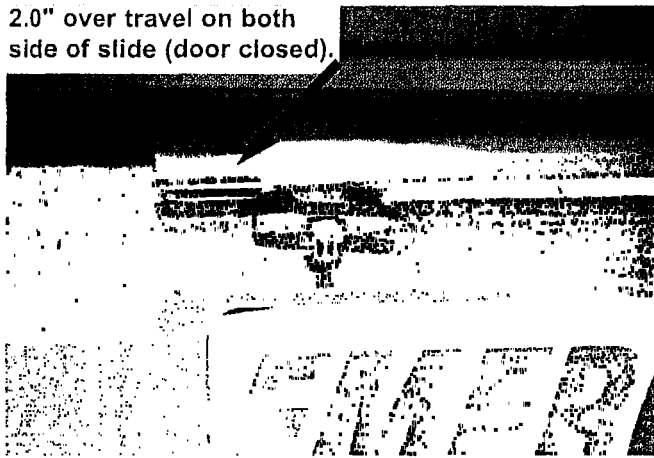

Fig. 1
1. Note and inspect the original position of the telescoping slide. Fig 1 & 2